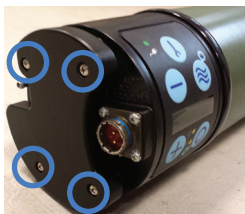

Figure 5-2. Remove Cover
- 5.6.2 Using a Phillips #1 screwdriver, loosen the four captive screws shown in figure 5-2.